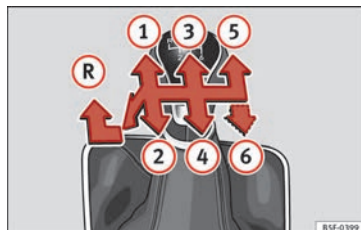

Fig. 45 Gear shift pattern of a 5 or 6-speed manual gearbox
The position of the gears is indicated on the gearbox lever »» **Fig. 45**.
- With the gearbox lever in neutral, push it upwards, move it to the left as far as it will go and then forwards to select reverse »» **Fig. 45**